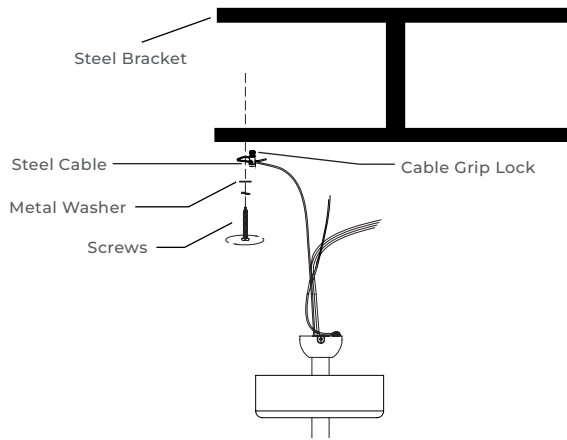

FIGURE 7
C) Put the end of the steel cable through the holes of the cable grip lock and form a small loop of suitable size. Then tighten the cable grip lock screws to lock the cable. Use a screw with a metal washer through the cable loop and secure it to the steel bracket on ceiling. (See Figure 7)